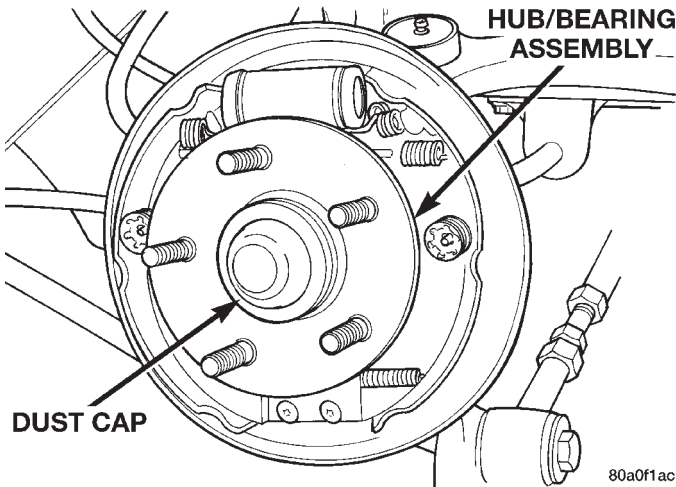

Fig. 141 Rear Hub/Bearing Dust Cap
(22) Remove the dust cap (Fig. 141) from the rear hub/bearing assembly.
(7) Install hub/bearing assembly dust cap, (Fig. 141) using a soft faced hammer.